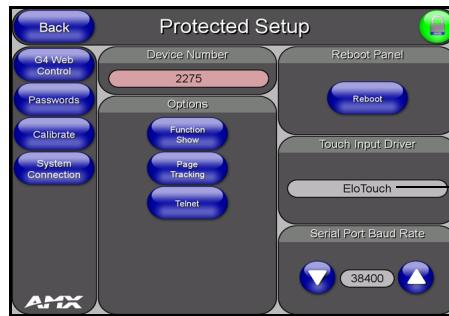

FIG. 4 Sample Protected Setup page
1. Press the **TOUCH** button on the front of the TPI/4 to open the on-screen Protected Setup page (FIG. 4). *The Touch Input Driver is defaulted to EloTouch.*
1. Press the **TOUCH** button on the front of the TPI/4 to open the on-screen Protected Setup page (FIG. 4).